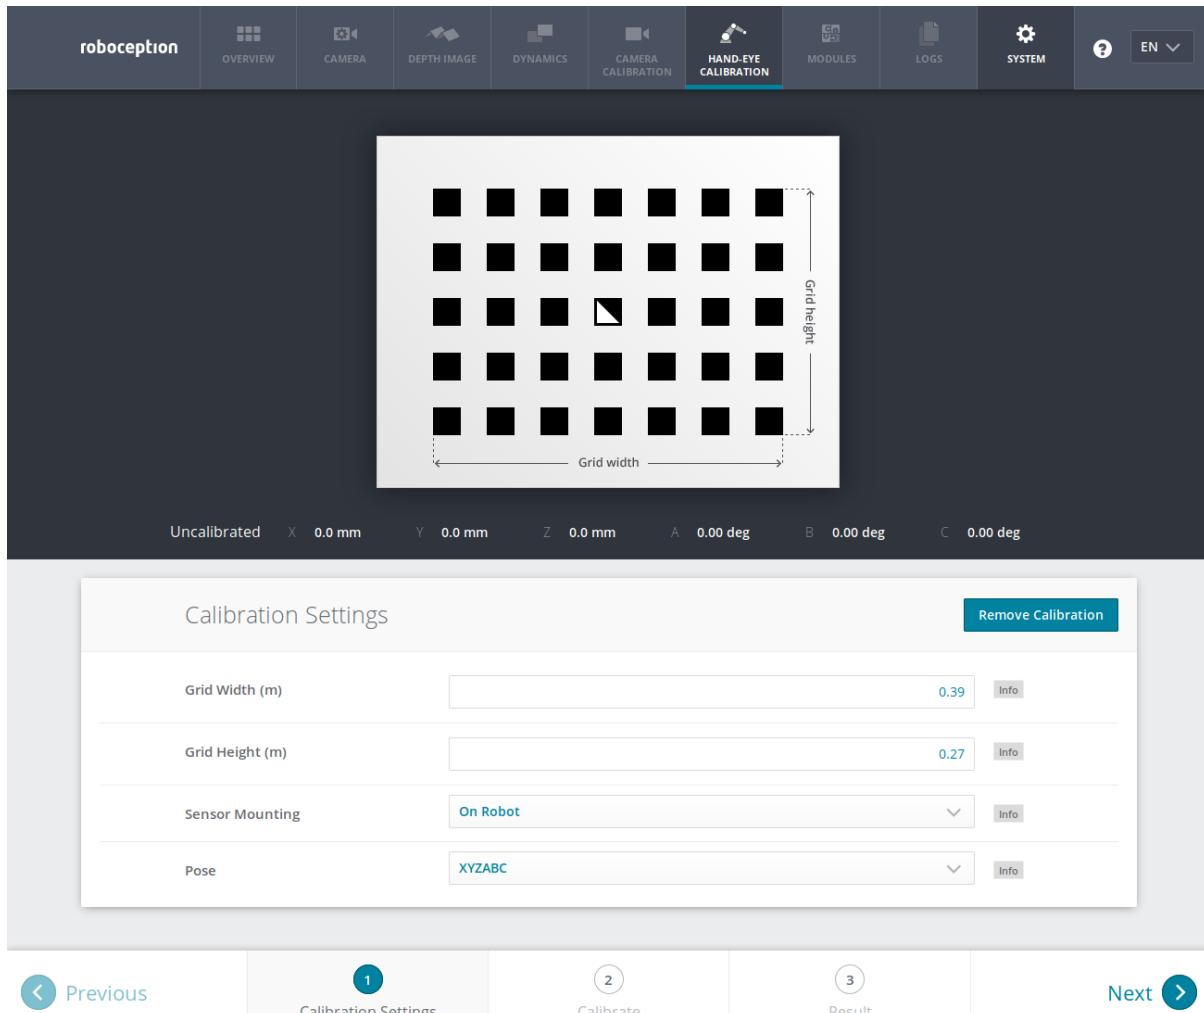

Fig. 6.7.5: Defining hand-eye calibration settings via the *rc\_visard*'s Web GUI
**Web GUI example:** The Web GUI offers an interface for entering these parameters during the first step of the calibration routine as shown in Fig. 6.7.5. In addition to grid size and sensor mounting, the Web GUI also offers a *Pose* setting to be defined by the user. It specifies the format used for reporting the robot poses in the upcoming step 2 of the calibration process, either as *XYZABC* for positions and Euler angles, or *XYZ+quaternion* for positions plus quaternions for representing rotations. See Pose formats (Section 13.1) for the exact definitions.